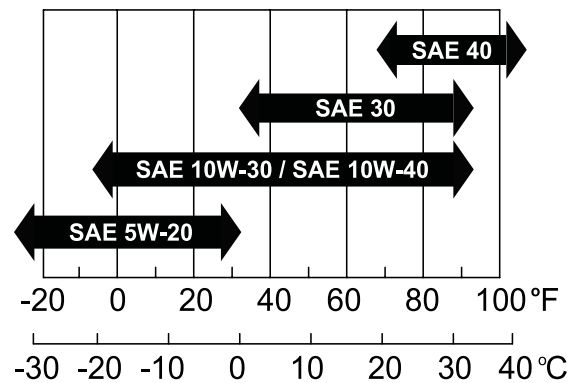

Figure 32
- **Viscosity:** SAE 30; refer to the following chart for other viscosities (Figure 32):